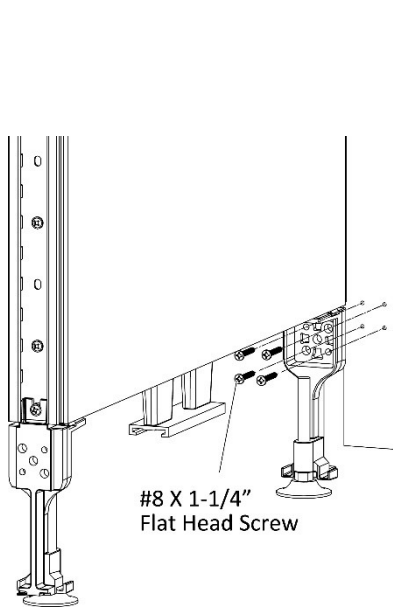

Figure 5
- Drive four #8 x 1-1/4" Flat Head Screws through the holes in standard panel leg into the pre-drilled holes of gallery panel, (Figure 5).